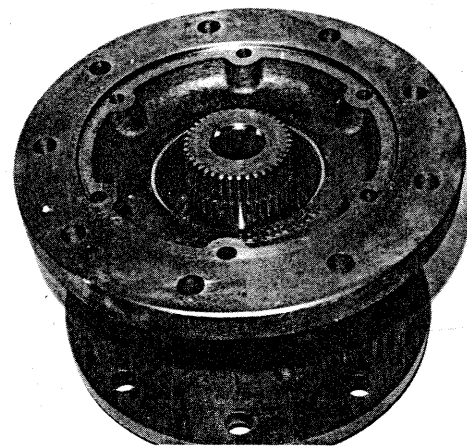

Figure 4 Lower hub onto spindle
**STEP 4** Lubricate lips of seal and lower hub onto spindle. Hub should be centered as it is lowered over hub to prevent seal damage, (Figure 4). ▶